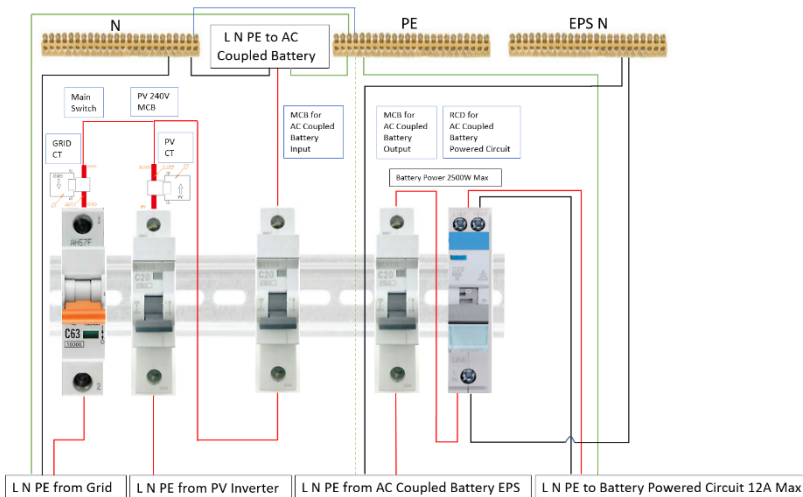

Figure 5-7 - Example switchboard installation
4. Connect the corresponding cable according to the label (PV/GRID) on the CT/METER: Label “GRID” is for grid connection, Label “PV” is for PV Connection. See figure 5-7 and find “CT”.